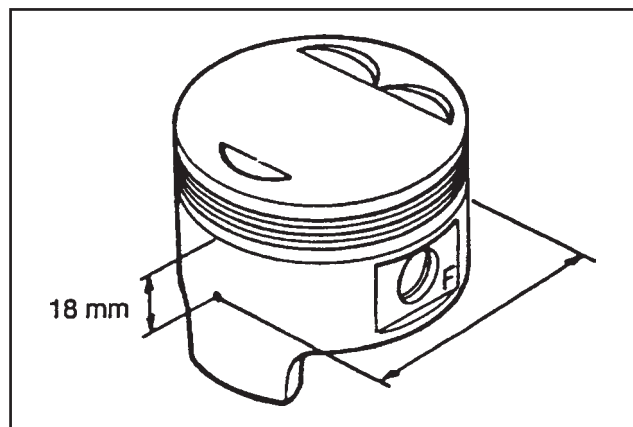

FIGURE 33. MEASURING THE PISTON
2. Measure the outside diameter of the piston as shown in FIGURE 33. The correct dimension is 85.944 to 85.964 mm. The maximum clearance between the piston and the cylinder bore is 0.15 mm.